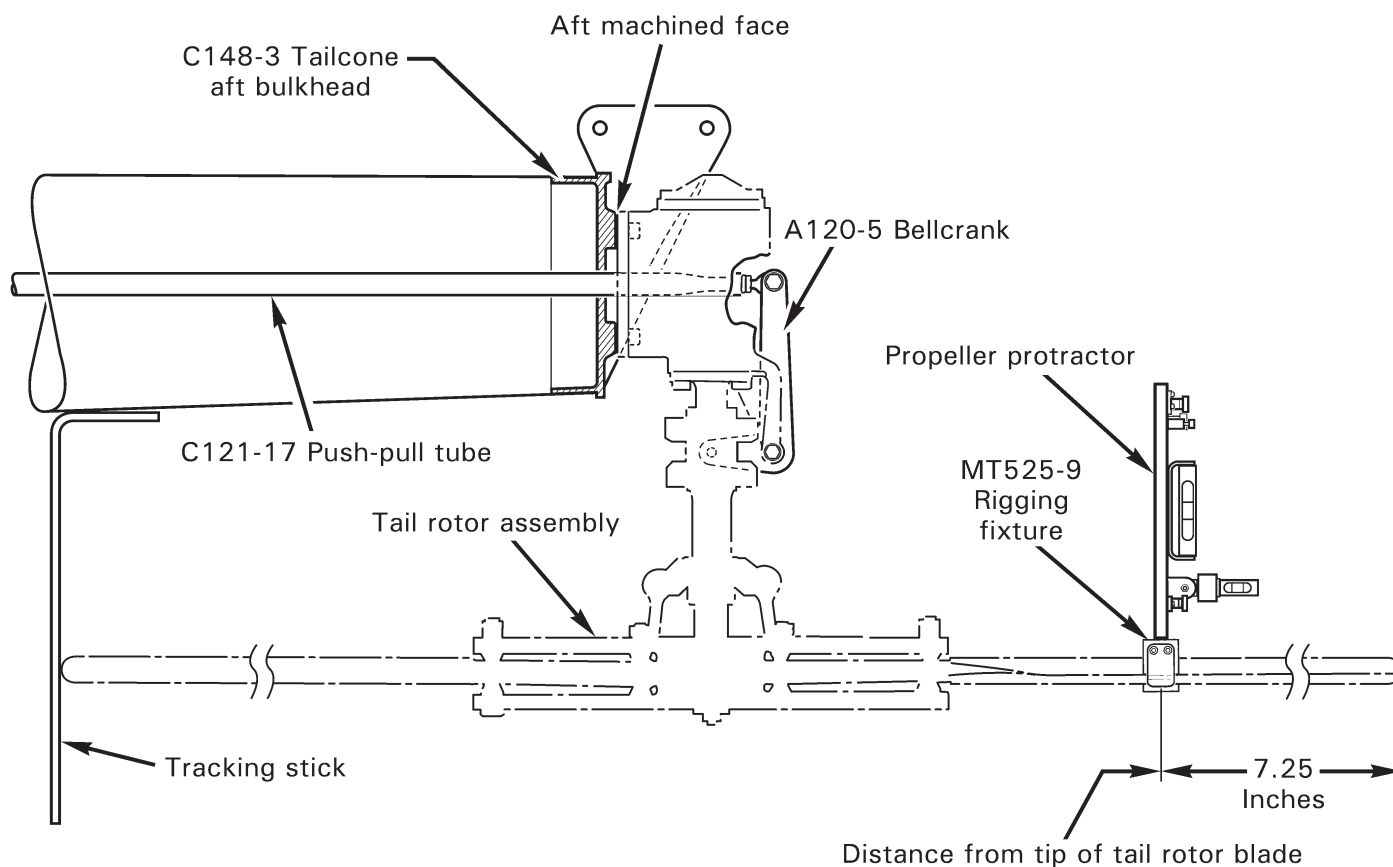

FIGURE 18-11 TAIL ROTOR BLADE RIGGING
3. Refer to Figure 18-11. Tape a tracking stick to tailcone at blade tip. A tracking stick can be made using a 1" x 12" strip of aluminum with a 90° bend 2 inches from one end.